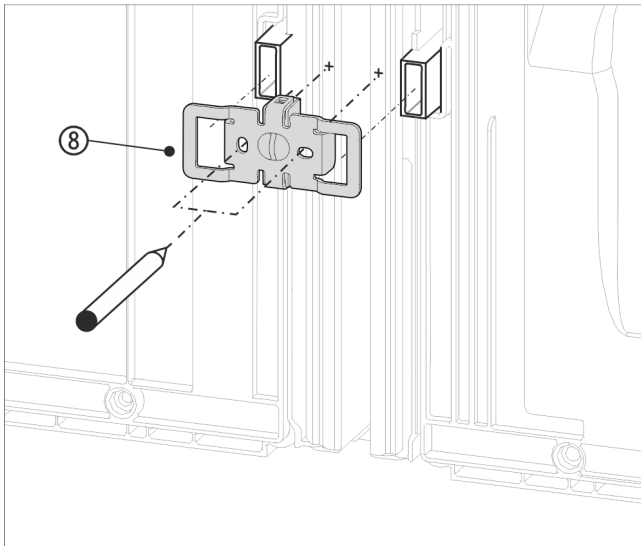

Fig. 18 Example illustration
- ▶ Slide the bracket Fig. 18 (8) on with the slots over the retainer for the wall spacers.